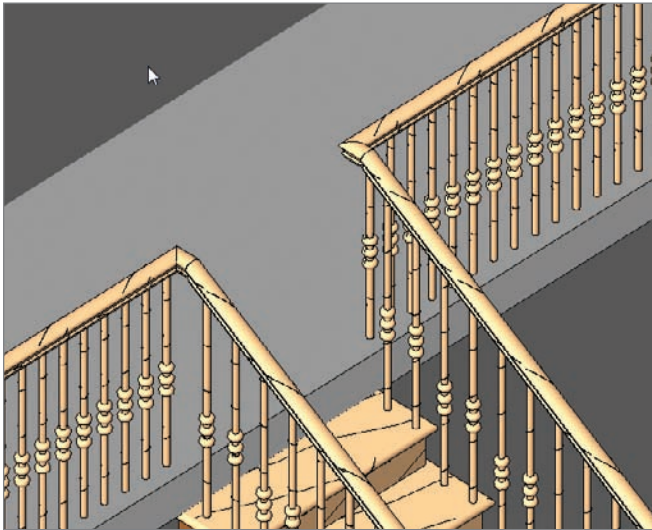

FIGURE 10.76 Both railings are in place.
7. Repeat the procedure on the other end (see Figure 10.76).